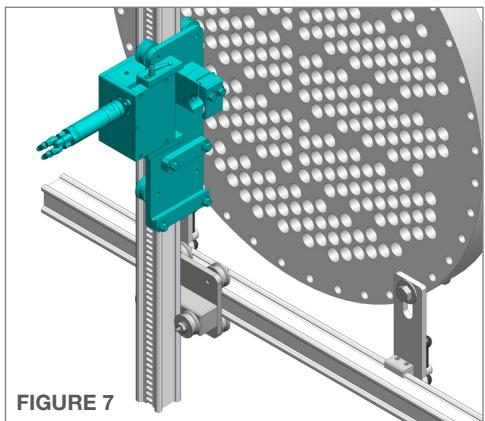

FIGURE 7
- Loosen the **Quick Adjust Handle** and pull the gearbox away from the carriage plate. This will allow the **Vertical Drive Carriage** to slide onto the rail without pneumatic power to rotate the drive. Center the carriage on the vertical rail and push the gearbox back toward the carriage plate. This will engage the gear into the rail slots. Verify the gear is engaging the slots correctly and tighten the quick adjust handle. (**Figure 7**)